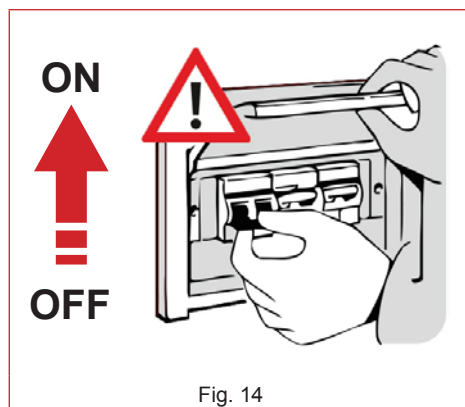

Fig. 14
- If present, set the thermal-magnetic circuit breaker located up from the power socket to the “ON” position (Fig. 14).